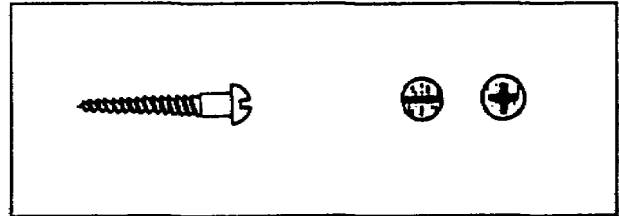

Figure 1-34. Roundhead screw
(1) Roundhead Screws. Roundhead screws (Figure 1-34) are usually used on a surface where the heads will show. The head is not countersunk, and for this reason it should have a pleasing finish—either blued or polished. If slotted-head, the screw slot should always be left in a parallel position to the grain of the wood.